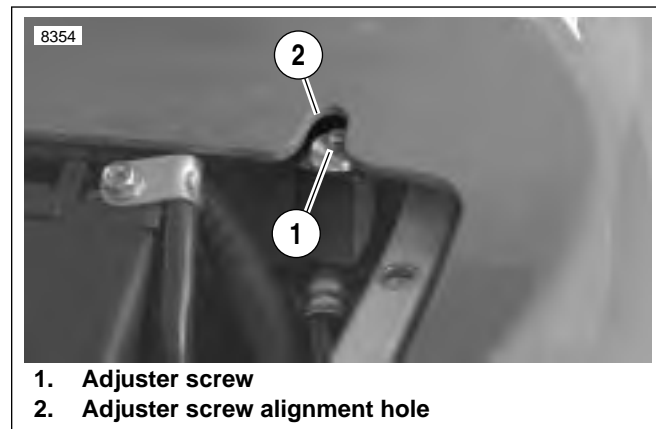

Figure 4-118. Adjuster Screw Alignment
See Figure 4-118. To ensure proper reservoir mounting, temporarily place upper body work onto tail section and adjust reservoir placement so adjuster screw (1) aligns with alignment hole (2).